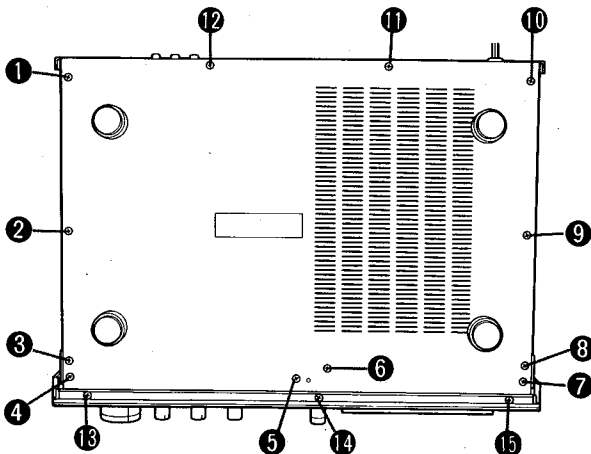
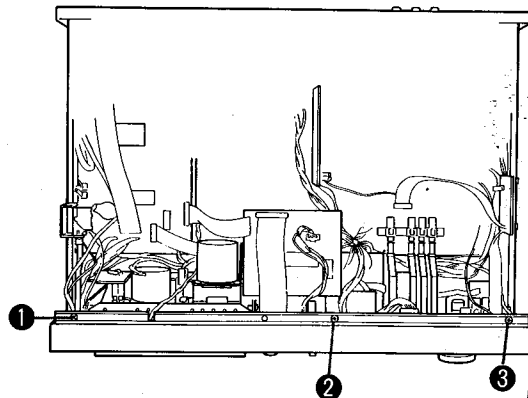

Fig. 2
Fig. 3
② CABINET BOTTOM REMOVAL
Remove the screws ① to ⑫ in Fig. 2 and then remove the cabinet bottom.
③ FRONT PANEL ASSEMBLY REMOVAL
1. Remove the cabinet top. (Refer to step ① .)
5. Remove the screws ⑬ to ⑮ in Fig. 2 and the screws ① to ③ in Fig. 3, and then pull out the front panel forward.